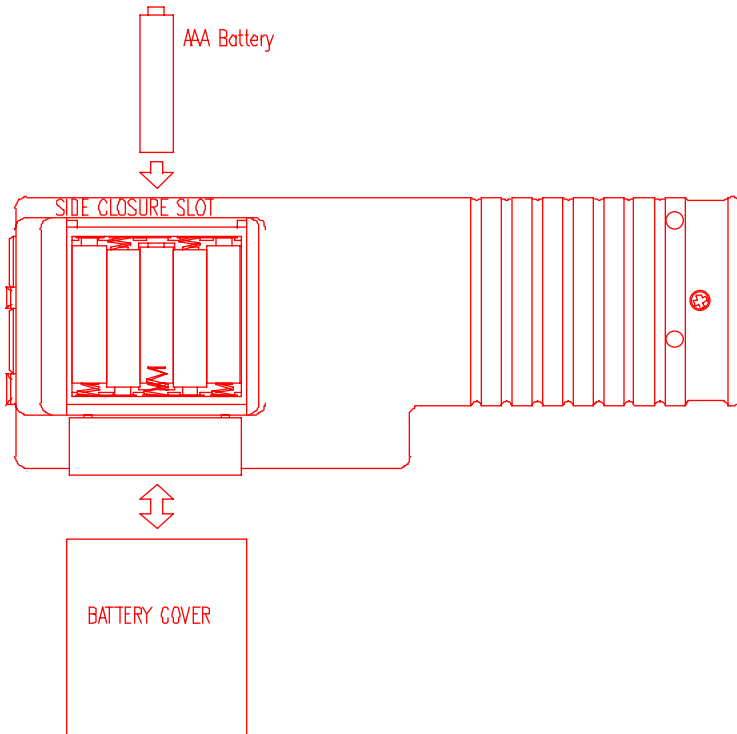

FIGURE 5
1. Position the meter so that the bottom part of the meter is facing up . (Refer to figure 5.) Insert a coin in the side closure slot. Tilt the coin and thrust it upward to open the battery compartment and lift the closure up.